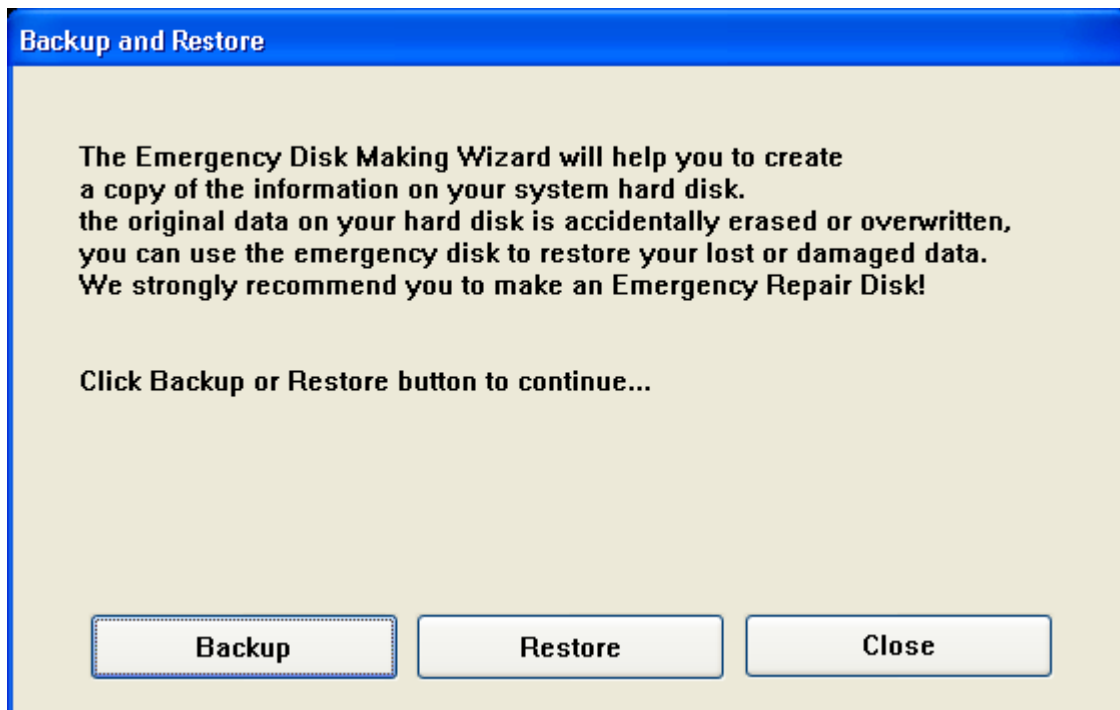

Figure 8-257 Backup and Restore Window
- 1.) From Figure 8-257, press "Restore" button.